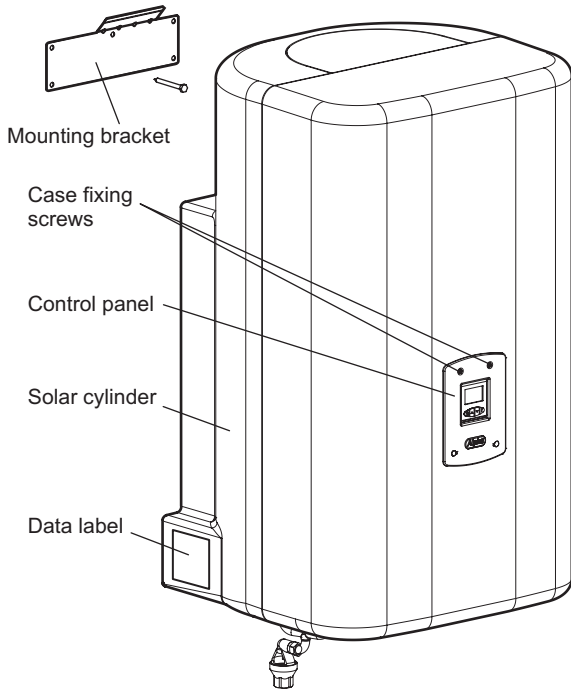

Fig. 10 - Box 1
4. Remove the two screws (top of the control panel) as shown in Fig. 10 securing the cylinder case and carefully pull off the case.